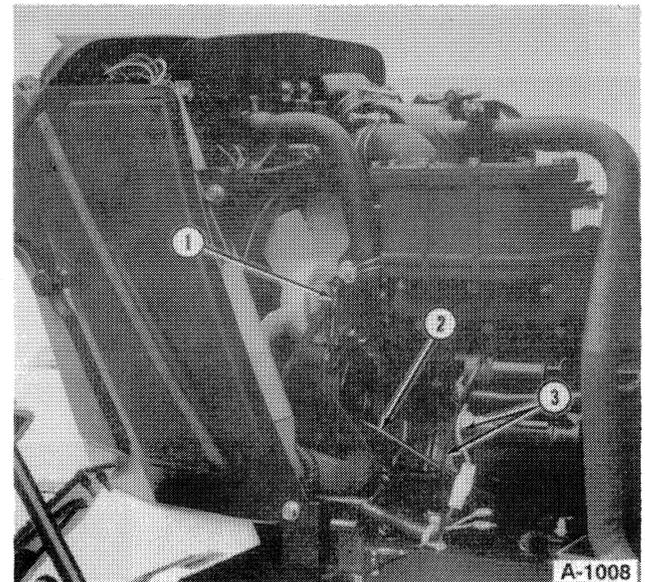

FIGURE 1-14
- 15. Disconnect the coolant temperature sensor wire, 1, from the sensor switch, Figure 1-14.
- 16. Remove the wires, 2, from the alternator assembly, Figure 1-14.
- 17. Remove the battery cable and wires, 3, from the starter motor, Figure 1-14.